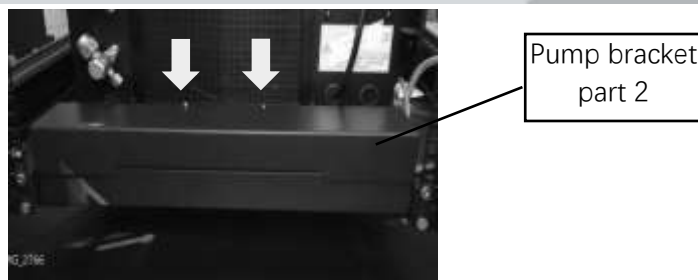

Figure 3-19 Installation of the pump bracket part 2
7. Install pump bracket part 2 to pump bracket part 1 with tightening the 2 screws in Figure 3-19.